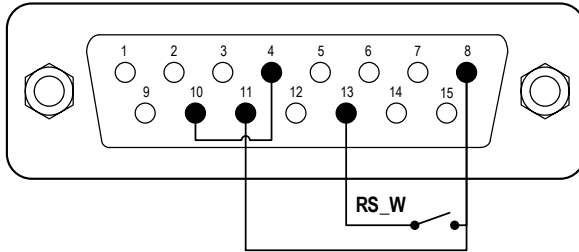
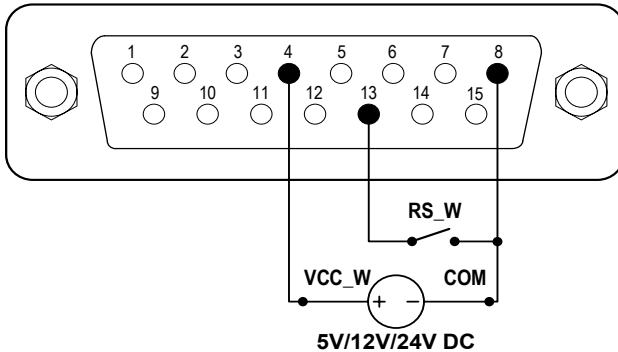

Figure 14. Logic Level 1 Control with Internal 12V Power Source
Figure 15. Logic Level 1 Control with an External Power Source
- 1) Turn off the power. Wire the DB15 connector as shown in Figure 14 or Figure 15, and connect it to the DB15 port on the rear of the pump.